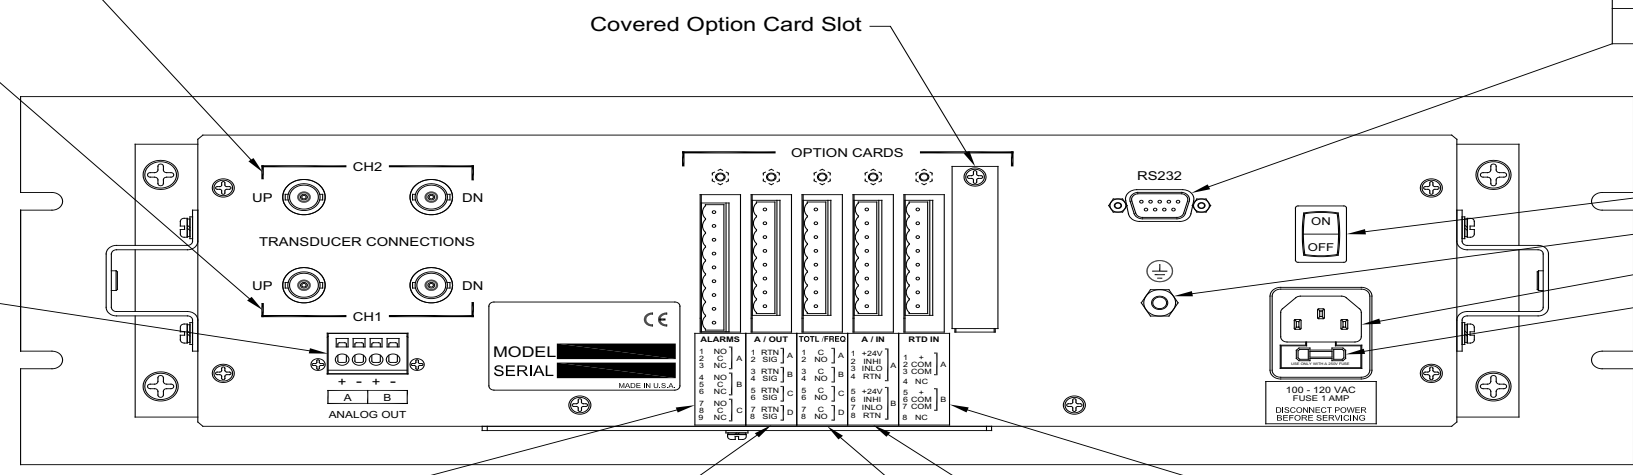

Figure 16: Model GS868 Rack Mount Enclosure - Wiring Diagram
- a. Purchase or prepare a suitable serial cable. This cable should have a standard female DB9 connector, wired as shown in Figure 16 on page 52, for connection to the rear panel of the Model GS868. The other end should be as required for the external device.
5. Wire any installed *option cards* using the same procedures described in Chapter 1, *Installation*, of this manual and the pin # assignments shown in Figure 16 on page 52.